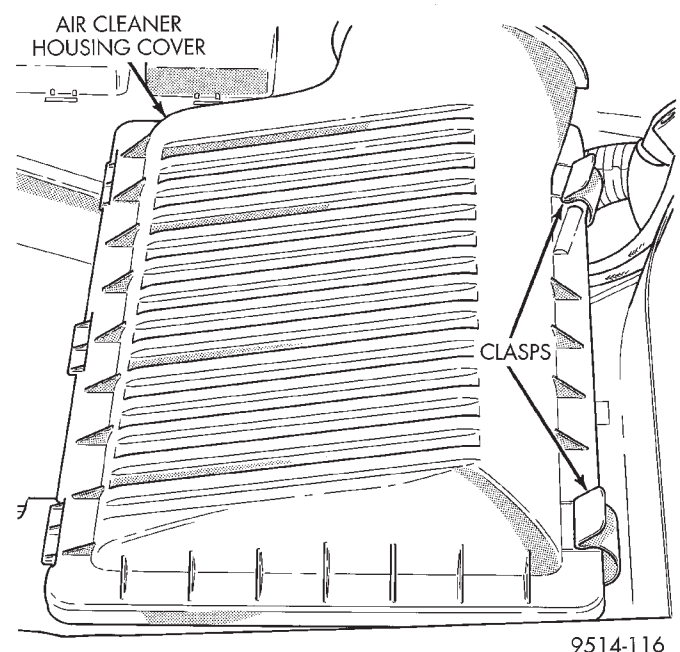

Fig. 96 Air Cleaner Cover Clasps
- (1) Unfasten clasps on rear of air cleaner housing cover. Lift cover off air cleaner housing (Fig. 96).